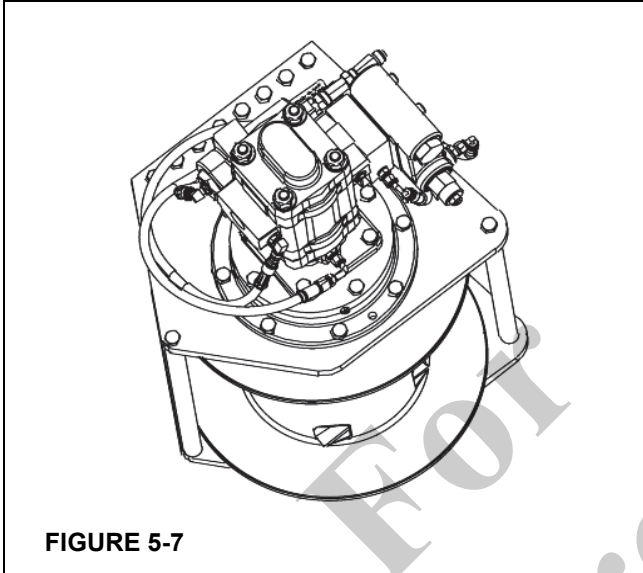

FIGURE 5-7
1. Stand the hoist on its end with the motor pointing up. Place blocking under the side plate so the hoist is not sitting on the shaft (Figure 5-7).
2. Inspect the cable drum (5) for structural integrity and replace if necessary.
3. Attach the shaft (32) to the side plate (29) using the six capscrews (3). Make sure the vent (30) is oriented properly. Torque the capscrews to recommended values, refer to *Fasteners and Torque Values*, page 1-11.
4. Install retaining the ring (48) onto the shaft (32)
5. Lay the unit down with the rods (2) pointing up. Support the side plate (29) with blocking (Figure 5-7) so that the hoist is not setting on shaft (32).
6. Set cable drum (5) onto shaft (32) and seat drum on bearing (28). Be careful not to damage seal (306).
7. Install the output planet set (4).
8. Install the output sun gear (16) into the output planet set.
9. Install the thrust washer (6) into the output planet set.
10. Install the input planet set (36) into the drum. Make sure that it fits over the output sun gear (16).
11. Install the input sun gear (8) and thrust washer (6) into the input planet set.
12. Install the thrust washer (6) into the input planet set.
13. Install a new O-ring (304) and if necessary bearing (28) & seal (306) into the bearing carrier (26). Grease the O-ring and seal then install the bearing carrier into the drum.
14. Position the side plate (1) over cable drum on rods (43). Secure the side plate with the three capscrews (2). Tighten capscrews to 80 to 90 lb-ft (109 to 122 Nm).
15. Install the brake sub-assembly into the side plate (1). Make sure that the pilot of the brake housing aligns with the bore in the bearing and that the bolt holes for the motor and vent are oriented properly. Install the eight capscrews (2). Tighten the capscrews evenly to 80 to 90 lb-ft (109 to 122 Nm).